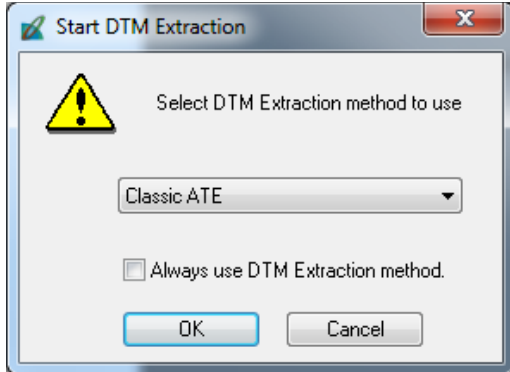

Fig.9. Start DTM Extraction
12. From the dropdown window in Fig.9.you have the option to select Classic ATE. This is the process we'll use for this example. Leave the "Always use DTM Extraction method." Check box empty and click **OK**.